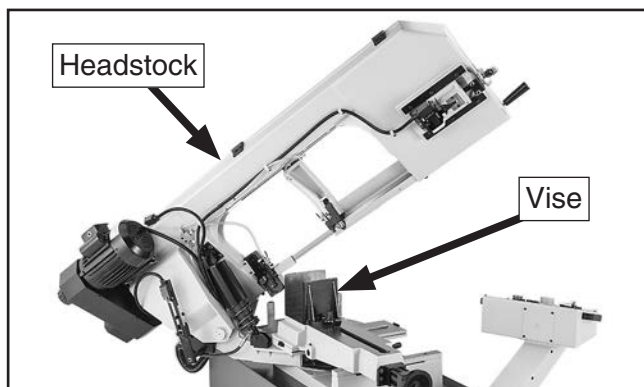

Figure 49. Headstock positioned for cuts to right.
5. Slide vise to left position and secure (refer to **Changing Vise Position** on **Page 34**). Headstock should now look similar to **Figure 49**.